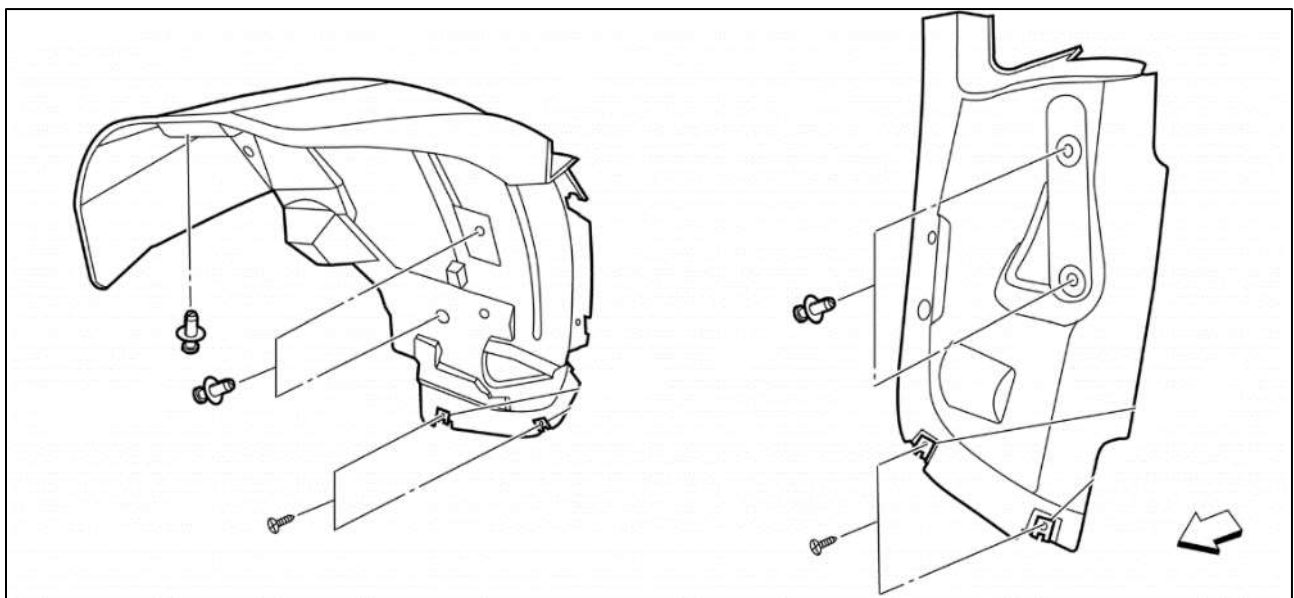

Figure 12
17. Remove the Fender Liner in the rear of the Driver Side Wheel Well. Use *Figure 12* as a reference.